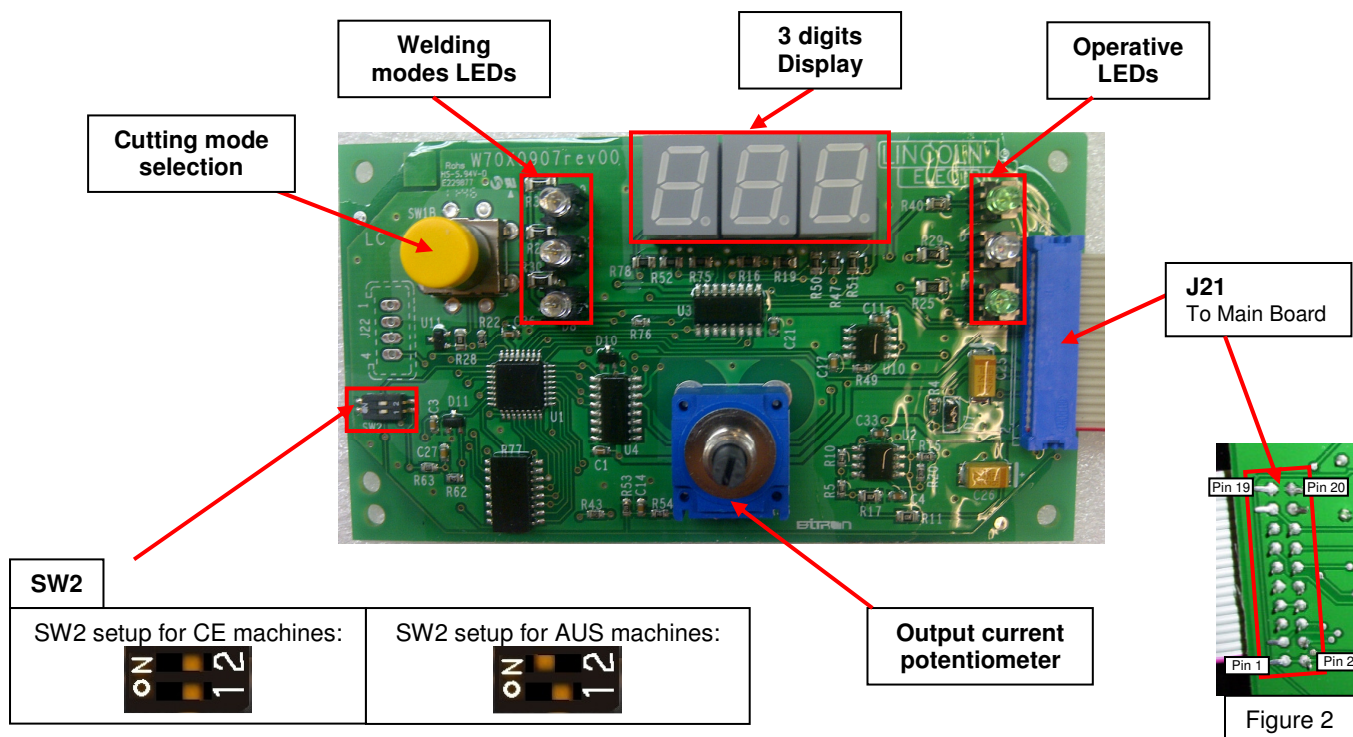

Figure 2
6. As it is too dangerous to disassembly the main board from the central frame and, with all components re-connected, perform the test, the easiest way to perform part of the voltage test is from the Control Board connector, see Figure 2. Follow the below table:
5. Follow the below table to perform the voltage tests on connectors J21. Take note that J21 is a flat cable connector; the only way to check signals is from the solder side, see **Figure 2**.